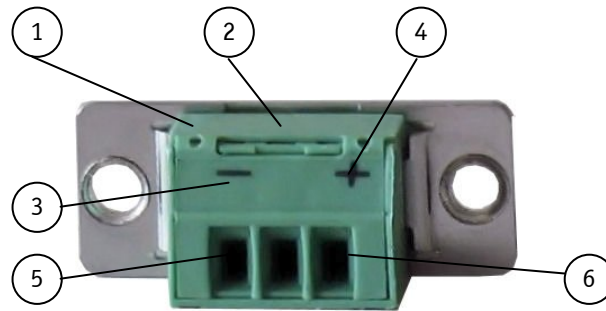

Fig. 40: Phoenix power plug terminal with "plus" and "minus" marking (MC 3 104/156/170)
5. Insert the wires into the corresponding clamp of the Phoenix plug terminal. Make sure that you have the right polarity of the connection (refer to Fig. 40).